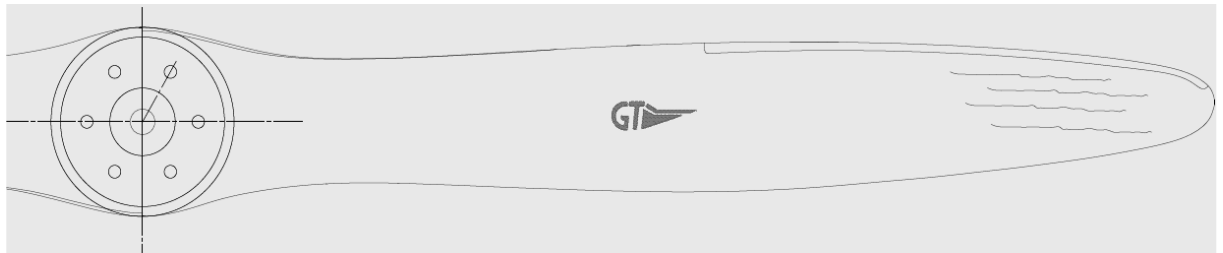

FIG 6-2 LONGITUDINAL CRACKS AT THE BLADE'S TIP
5. Deep cracks to the extremity of the the blade in longitudinal development indicate a flexing vibration action and are to be considered dangerous because they can cause breakages or damages in advance state. (See Fig. 6-2 )